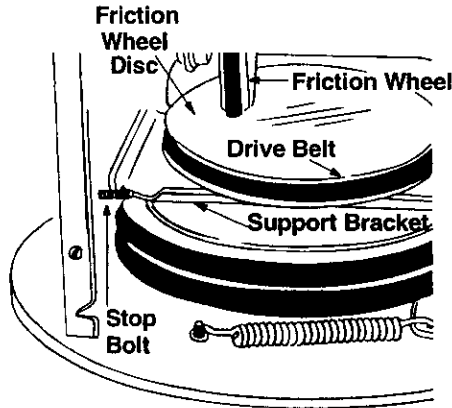

Figure 26
- Using a wrench, loosen the nut on the stop bolt until the support bracket rests on the auger pulley. See Figure 26.
- Slip belt between friction wheel and friction wheel disc. See Figure 26. Remove and replace belt. Reassemble in reverse order.
NOTE: The support bracket must rest on the stop bolt after the new belt has been assembled. See Figure 26.